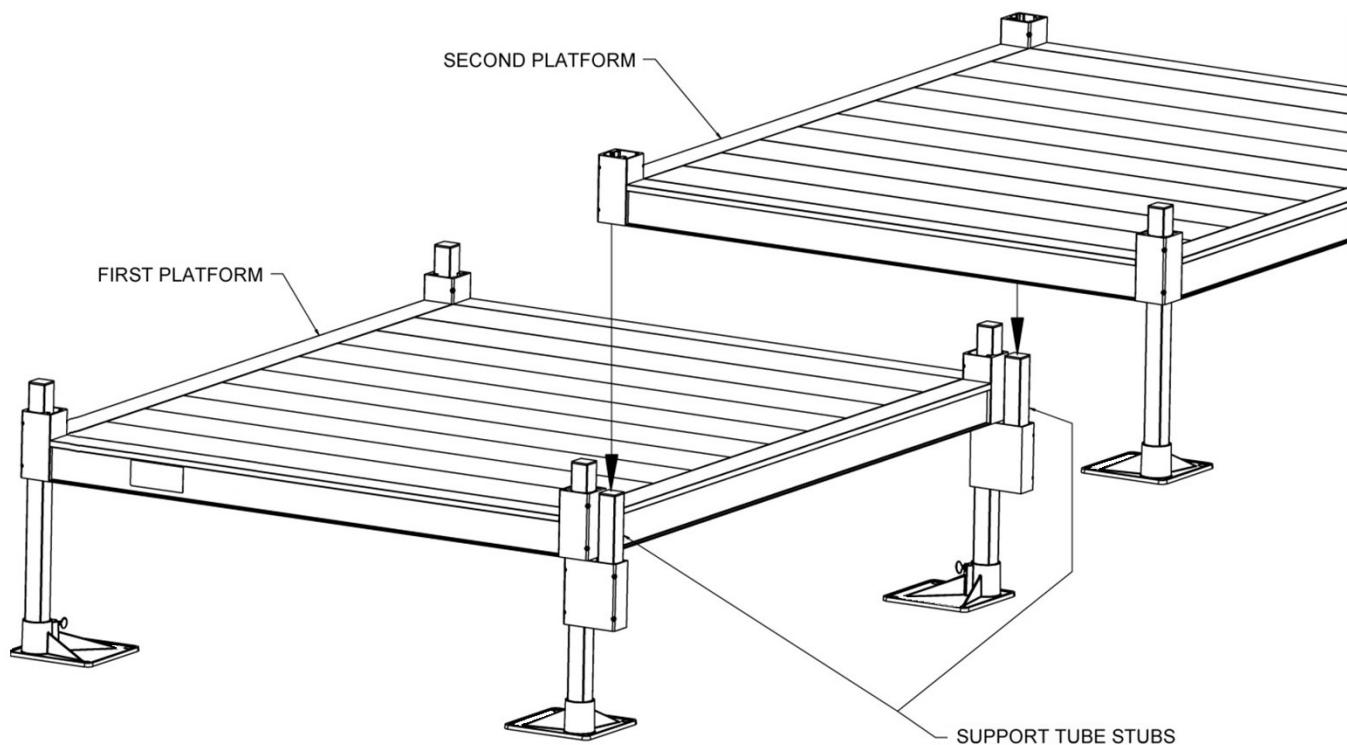

FIG. 2.7
2.3.6. Assemble the second platform as described in the previous section except only install support tubes, plugs, and feet on the opposite side of where the platforms will connect (FIG. 2.7).